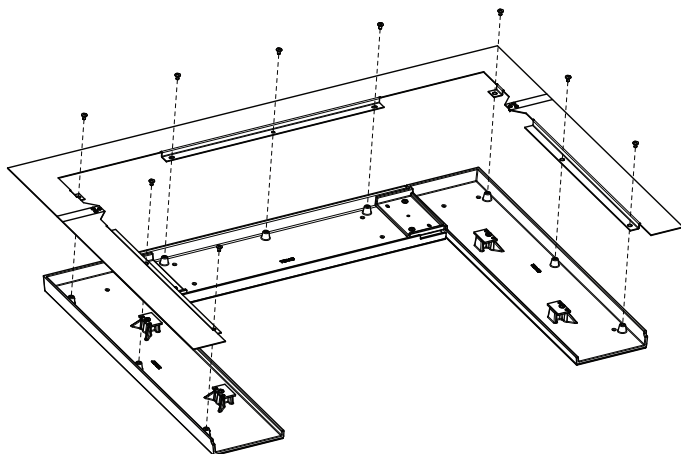

Figure 22.2
1. Align holes from Surround Extension Assembly as shown in **Figure 22.2**.
2. Using a Phillips Head screwdriver and nine (9) 1/4 -20 x 3/8 Phillips head screws; secure Panel Extension Assembly to Cast Surround Assembly.